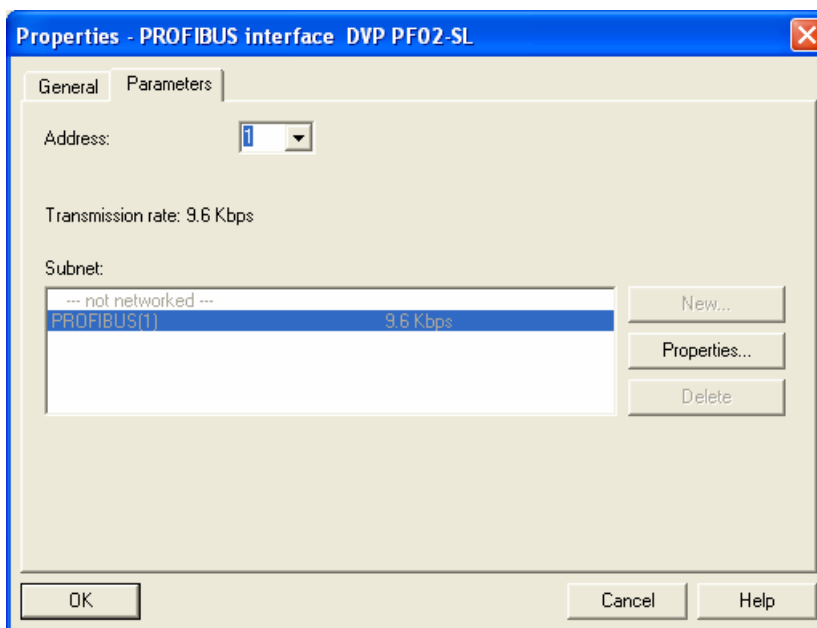

Figure 10-21
2. In this dialog box, select an address for DVPPF00-SL, as Figure 10-21. The address has to be consistent with the address set by the address switch on DVPPF02-SL. Next, click "OK".